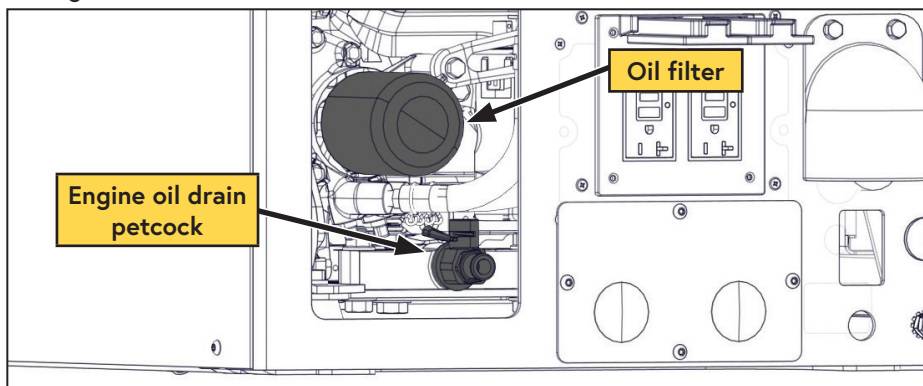

Figure 37 — Oil filter
- ☐ Clean the area around the engine and the oil filter to prevent contamination (Figure 37).